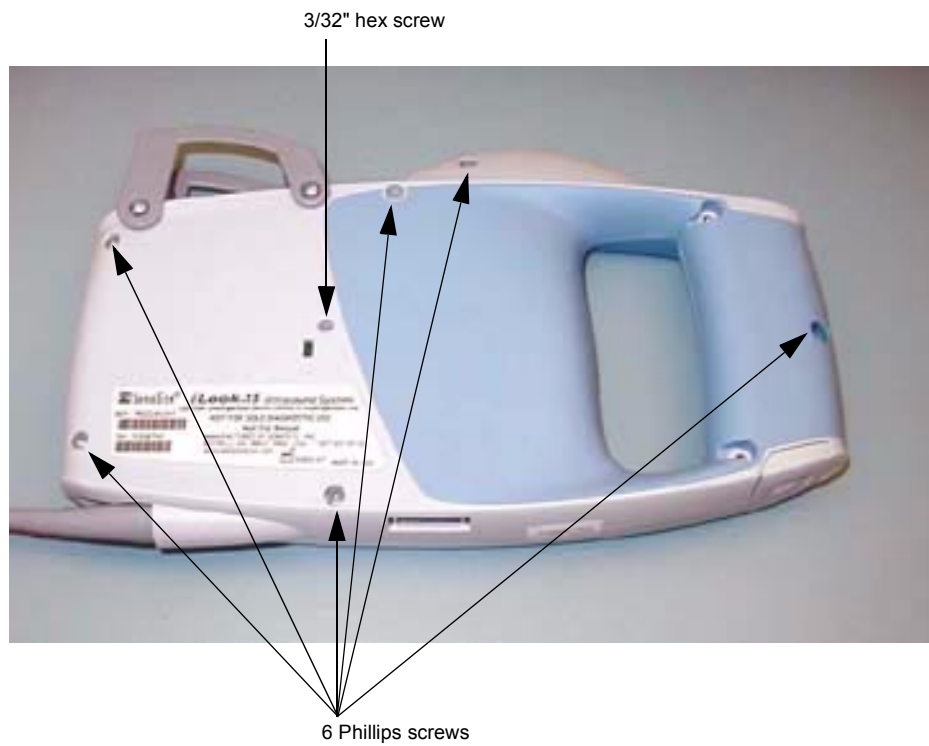

Figure 7.1 Display Side Down
- 2 Place the system on an anti-static surface with the display side down. (Figure 7.1)
- 3 Remove the six (6) Phillips screws and one (1) 3/32" hex screw from the rear cover. (Figure 7.1)
- 11** Place the rear cover into place. Install the six (6) Phillips screws and the one (1) 3/32" hex screw. Tighten the Phillips screws to 8.0 in/lb. and the 3/32" hex screw to 3.4 in/lb. (Figure 7.1)
- 13 Place the rear cover into place. Install the six (6) Phillips screws and the one (1) 3/32" hex screw. Tighten the Phillips screws to 8.0 in/lb. and the 3/32" hex screw to 3.4 in/lb. (Figure 7.1)
- 1 Place the rear cover into place. Install the six (6) Phillips screws and the one (1) 3/32" hex screw. Tighten the Phillips screws to 8.0 in/lb. and the 3/32" hex screw to 3.4 in/lb. (Figure 7.1)